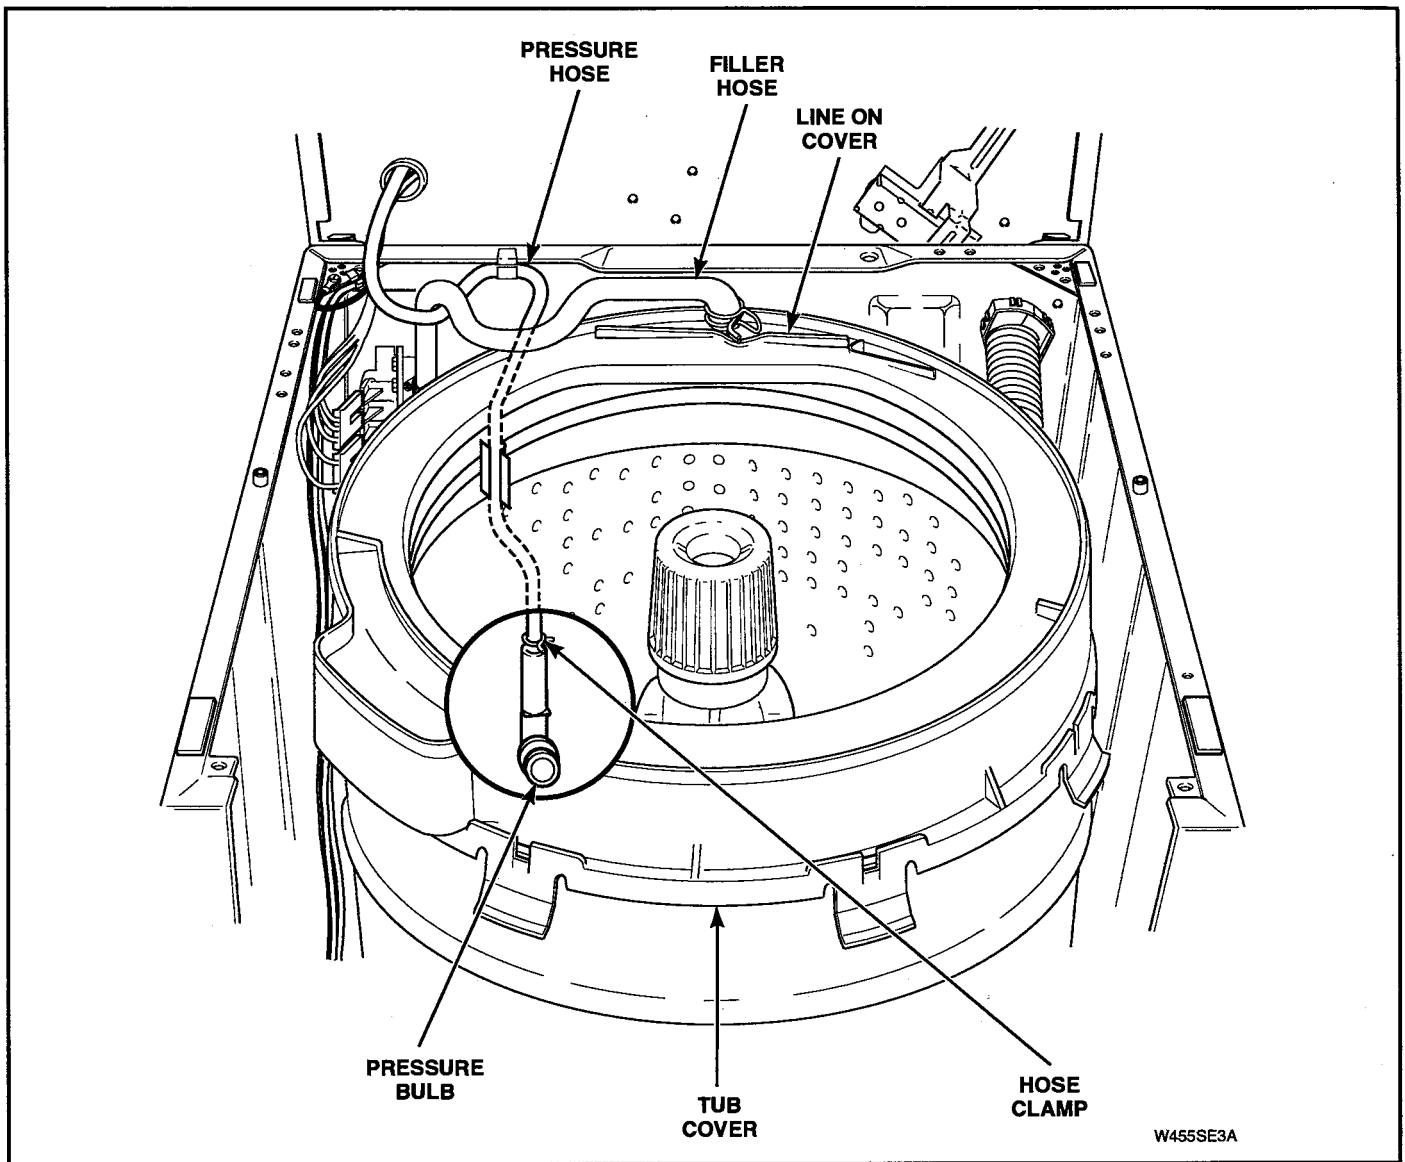

Figure 5-44
- q. Reconnect pressure hose to pressure bulb. See Figure 5-44. Then connect filler hose to tub cover. See Figure 5-44.
**NOTE:** When reinstalling filler hose, white line on hose that connects to tub cover must be aligned with line on top side of outer tub cover. See Figure 5-44. Make sure hose is in its natural position (not kinked or twisted). If hose is not, loosen hose clamp and straighten hose.